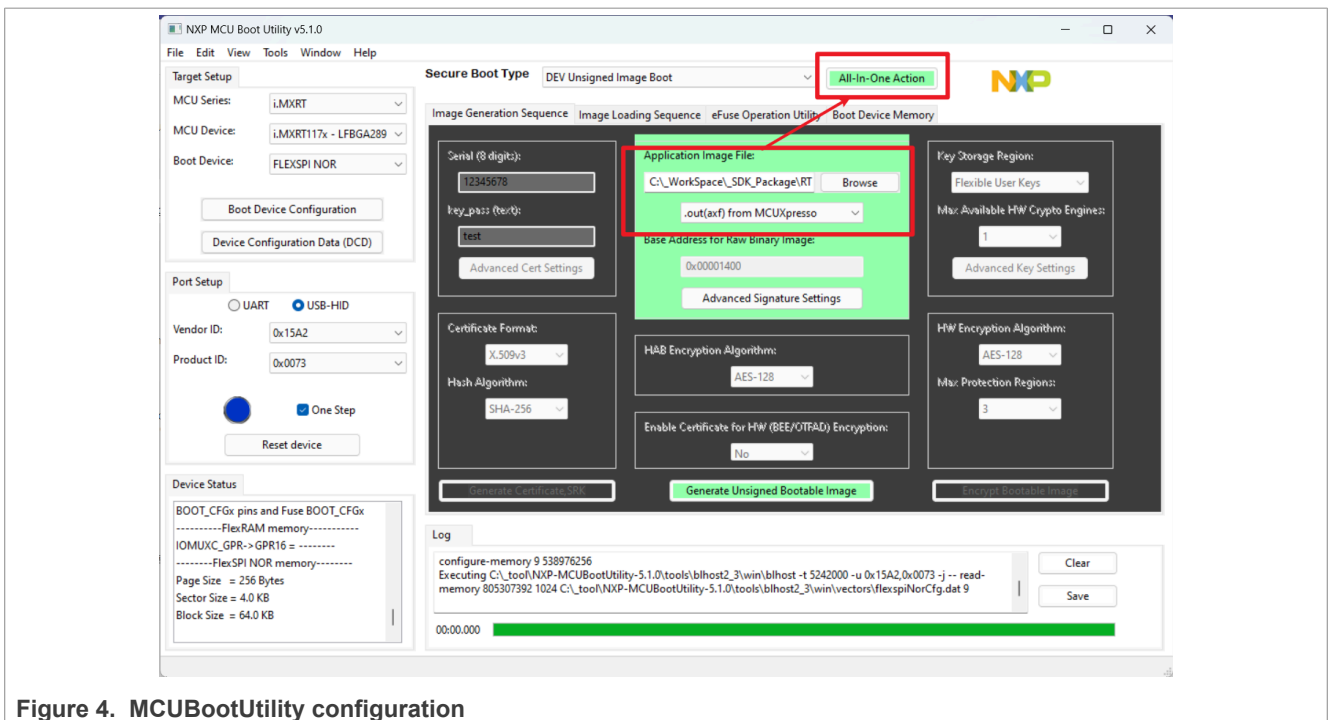

Figure 4. MCUBootUtility configuration
3. Compile the project after doing all the steps above, an executable file with the suffix `.axf` is obtained. Currently, open the MCUBootutility tool, dial the RT1170-EVKB to the SDP mode, and connect to the MCUBootUtility. As shown in Figure 4, in the **Application Image File** option, select the `.axf` file generated in MCUXpresso ID, click **All-In-One Action** to generate a Bootable image, and download it to FlexSPI NOR Flash of EVKB.
After the modification is completed, compile the project to get the executable file. As shown in Figure 4, select the `.out` file generated by IAR in the MCUBootUtility tool, click the **All-In-One Action** button to generate a Bootable image, and download it. Finally, use the **Debug without Downloading** button of IAR to debug.